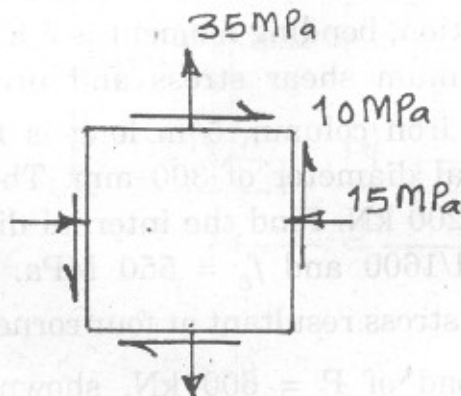

Fig. 6
- (b) For the element shown in Fig. 6, locate the planes on which magnitude of the shear stress and normal stress are equal. Show the results on properly oriented elements. Also find the principal stresses. [9]